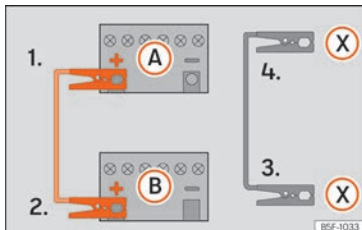

Fig. 69 Diagram of connections for vehicles with Start Stop system
- b. *In vehicles with a Start-stop system:* connect one end of the *black* jump lead (X) to a suitable ground terminal, to a solid piece of metal in the engine block, or to the engine block itself » Fig. 69.
- Connect the other end of the *black* jump lead (X) to a solid metal component bolted to the engine block or to the engine block itself of the vehicle with the flat battery. Do not connect it to a point near the battery (A).